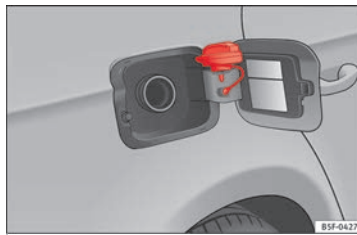

Fig. 60 Fuel tank flap with tank cap attached.
- Place it in the space on the hinge of the open flap » **Fig. 60.**